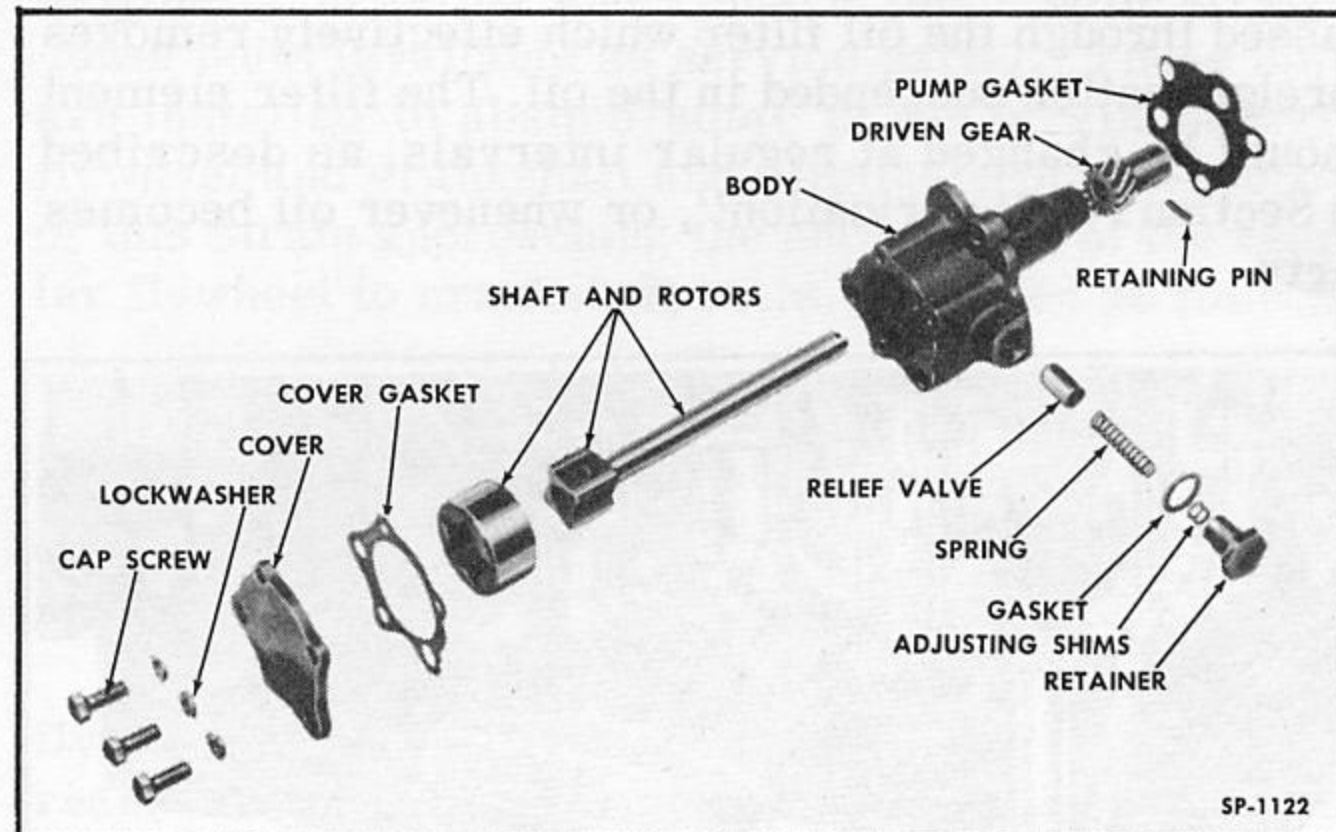

Fig. 50—Oil Pump—Exploded View
1. To disassemble oil pump, file one of the peened ends of pin that attaches driven gear to shaft. Drive the pin out of gear with a small drift and pull driven gear off shaft. Remove cap screws and lockwashers that attach cover to pump body and remove cover. Remove shaft and rotors from body. Remove relief valve retainer, gasket, shims (if used), spring and valve from body (Fig. 50).
4. With engine speed increased to the equivalent of 30 MPH, oil pressure should reach approximately 30 to 40 psi pressure. At this pressure, the relief valve should open and keep oil pressure constant even though engine speed is increased to maximum. The pressure at which the oil pressure relief valve opens can be adjusted by installing or removing shims from between the valve retainer and spring (see Fig. 50). Adding shims increases pressure and removing shims decreases pressure.